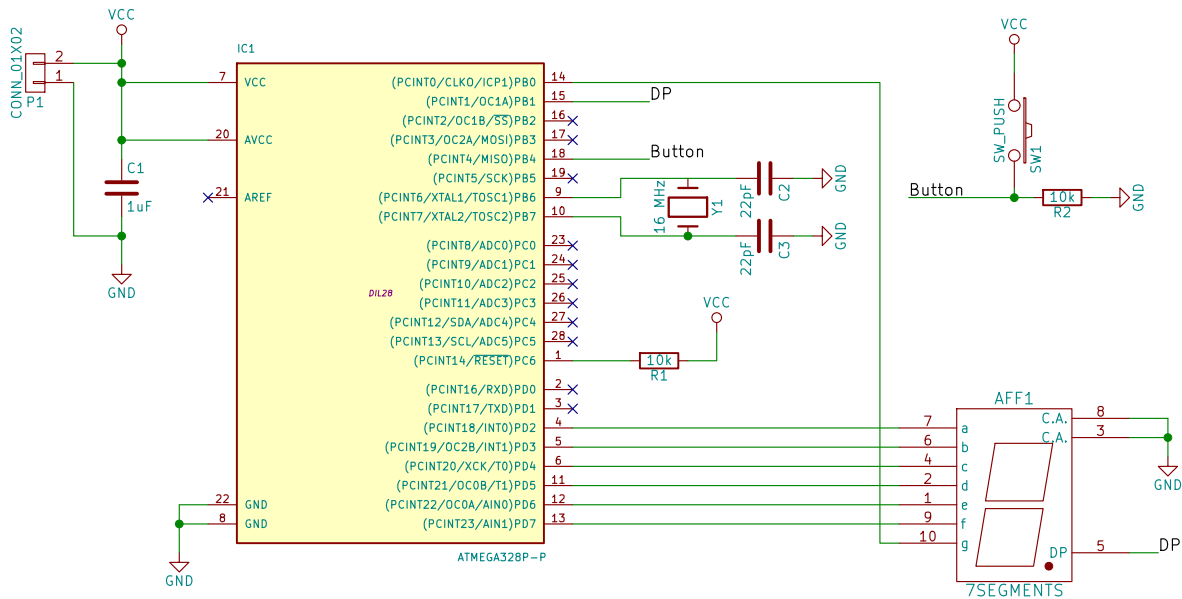

Figure 7: Completed schematic drawing of Example 1 circuit.
- f) Repeat steps a–e for the connection between ATmega328P's *PB4* pin and the push button. Refer to the final schematic (Fig. 7) for how it looks.
12. The final schematic should look like that in Fig. 7.